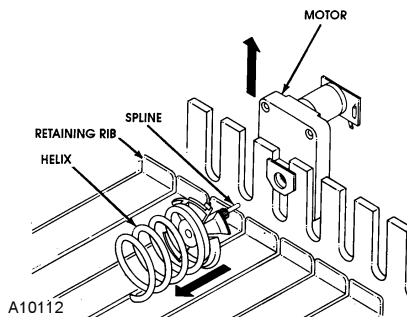

Figure 8. Retiming an Auger
2. Raise the motor slightly and pull forward on the auger until it separates from the motor. See Figure 8.